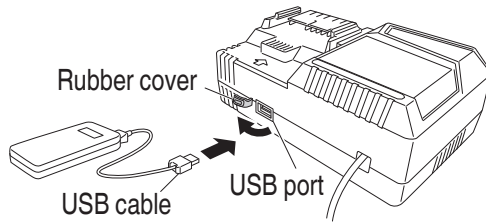

Fig. 37
- (2) Connect the USB cable. (**Fig. 37**)